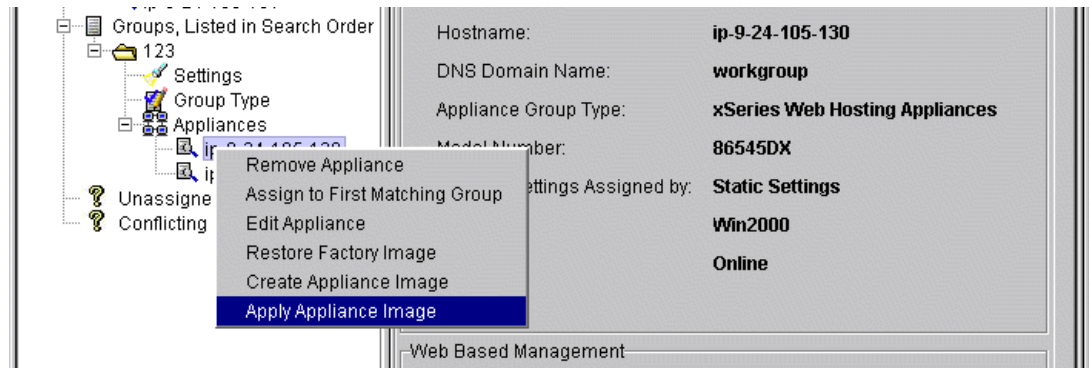

Figure 2-19 Reprovisioning
1. Right-click the new appliance and click **Apply Appliance Image** (see Figure 2-19):